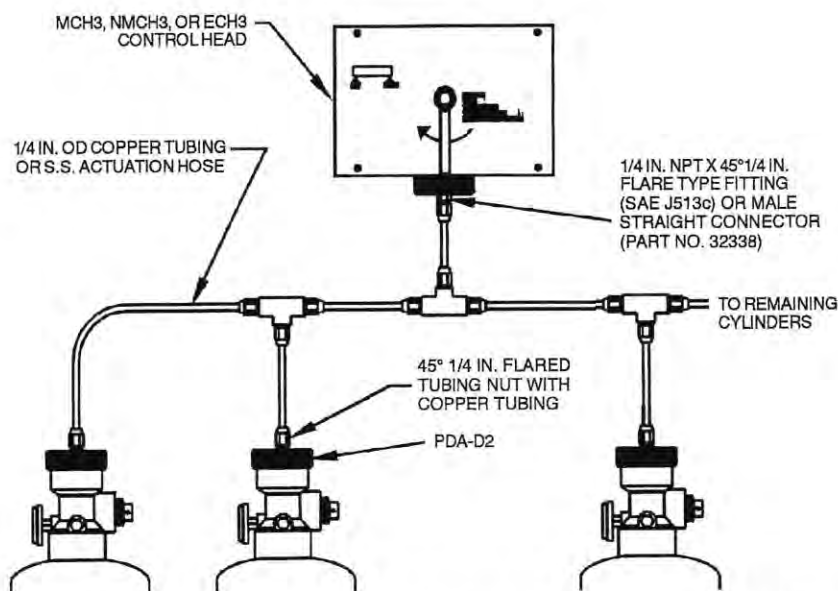

Figure 4-3. Multiple Cylinder Actuation Using Model MCH3/ECH3/NMCH3 Control Head
- In order to actuate the agent cylinder(s) from a control head, a 1/4 in. NPT x 45° 1/4 in. flare type fitting (conforming to SAE J513c) or male straight connector (Part No. 32338) must be screwed into the base of the control head actuator. Also, a Model PDA-D2 Pneumatic Discharge Adaptor must be installed on the valve of each agent cylinder. Pneumatic tubing or stainless steel actuation hose is then used to connect the control head to the PDA-D2 of each agent cylinder valve. See Figure 4-3.